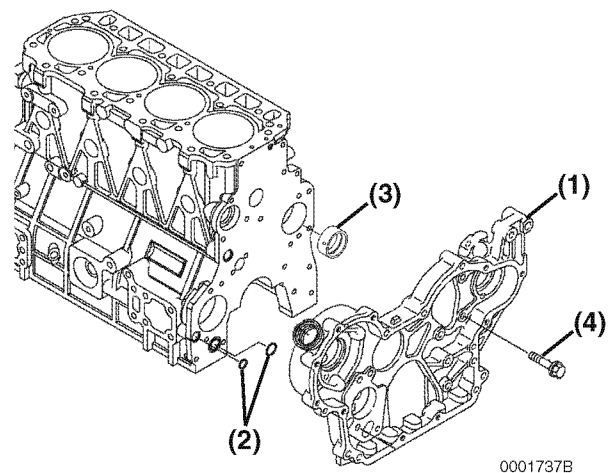

Figure 6-98
- Remove the bolts (Figure 6-98, (4)).
- Remove the gear case (Figure 6-98, (1)) or front plate from the cylinder block. Thoroughly clean all old sealant from the mating surfaces.
- Inspect and measure the camshaft bushing. See *Camshaft on page 6-9 for the service limit*. If damaged or worn beyond service limits, remove the camshaft bushing (Figure 6-98, (3)).
- TNV94 - TNV106:** Remove two O-rings (Figure 6-98, (2)).